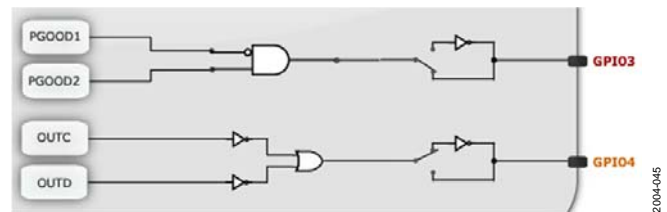

Figure 49. Option 3: GPIO3 Configured as a Regular Signal; GPIO4 Configured as an Active Snubber PWM Output
- Option 3: GPIO3 is configured as a regular signal; GPIO4 is configured as an active snubber PWM output (see Figure 49).